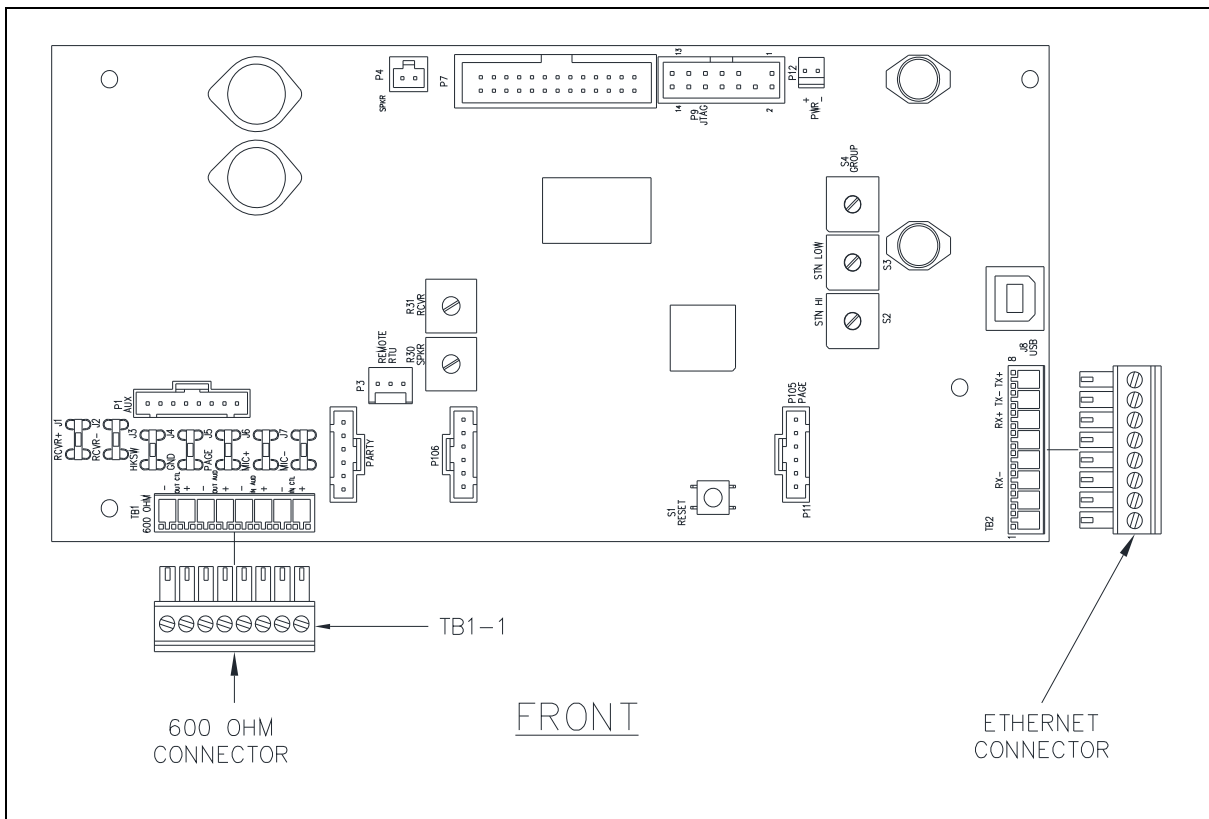

Figure 8. SP2 Main PCBA (Ethernet)
3. Connect the 600-ohm audio wires to the pluggable terminal block for the 600-ohm audio I/O connection (see Table 6 and Figure 8).
3. Connect the Ethernet cable to the 8-position pluggable terminal block (see Figure 8).
4. Connect the pluggable terminal block to the main PCBA terminal block TB2 (see Figure 8).